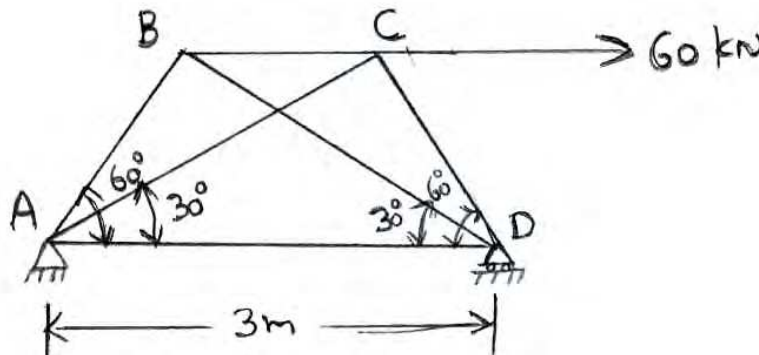

Figure 6
6. The pin-jointed truss shown in Figure 6 is having supports at A and D and is subjected to a horizontal force of  $60 \text{ kN}$  at C. Determine the forces developed in all members of the truss. Given cross-sectional areas of all members  $= 6000 \text{ mm}^2$ , Young's Modulus  $200 \text{ kN/mm}^2$ . [16]